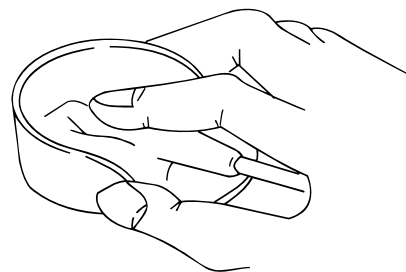

Figure 3-5
- (5) Fit your forefinger over the projection at the center of the cap and hold the cap between your thumb and middle finger. (See Figure 3-5)